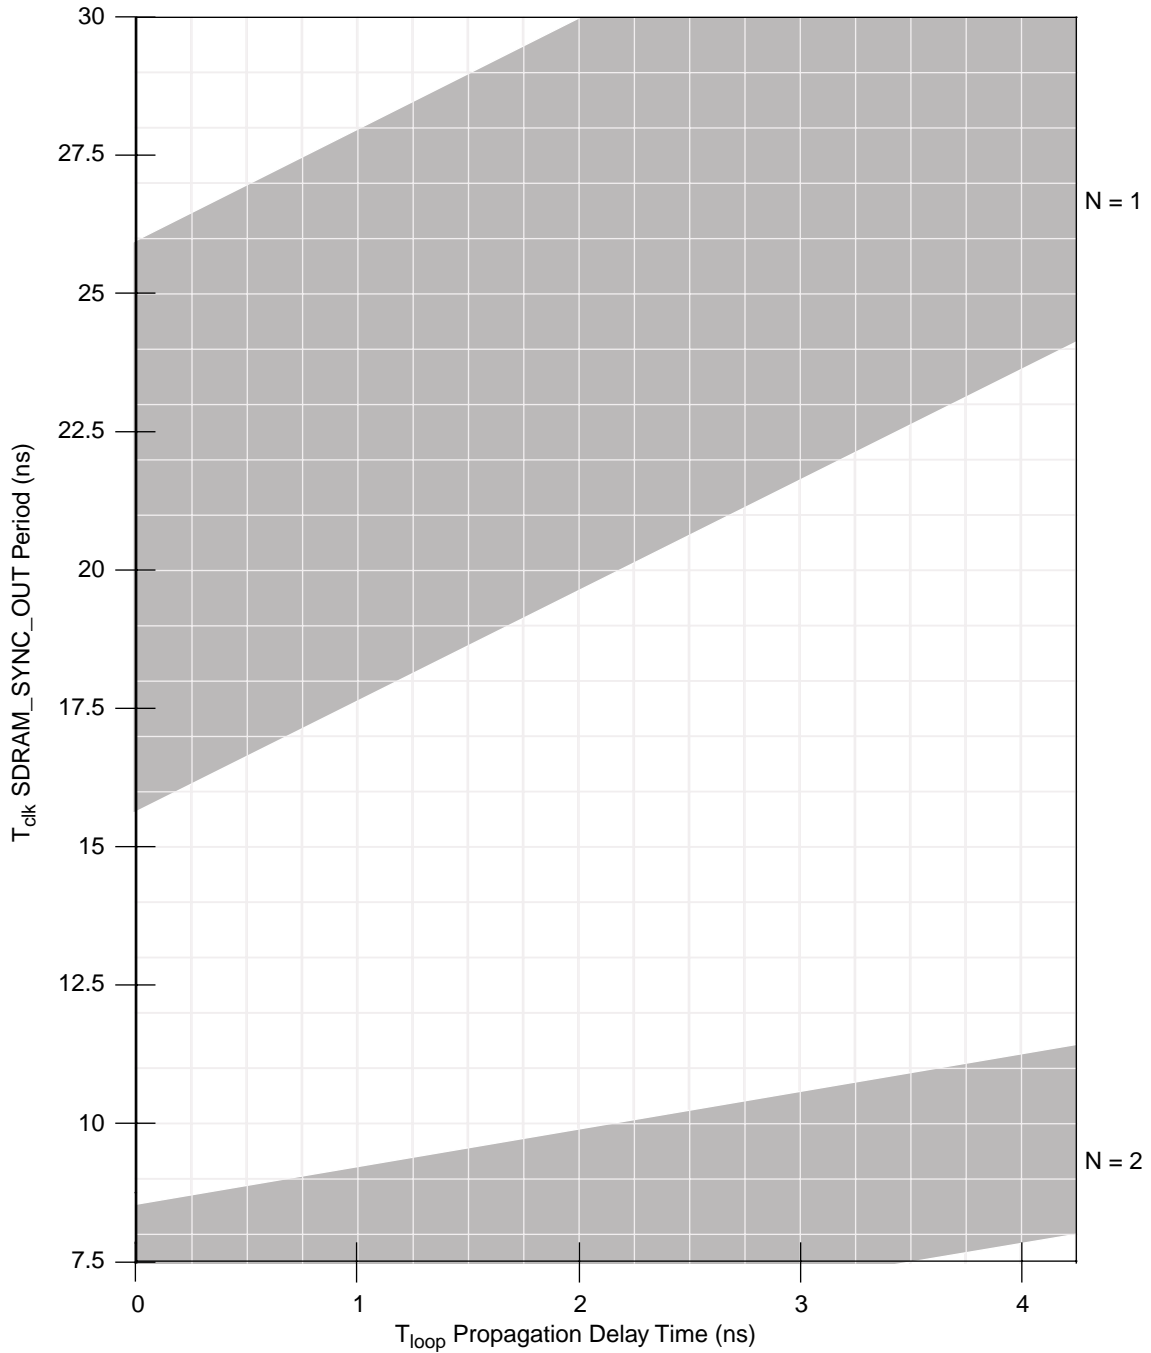
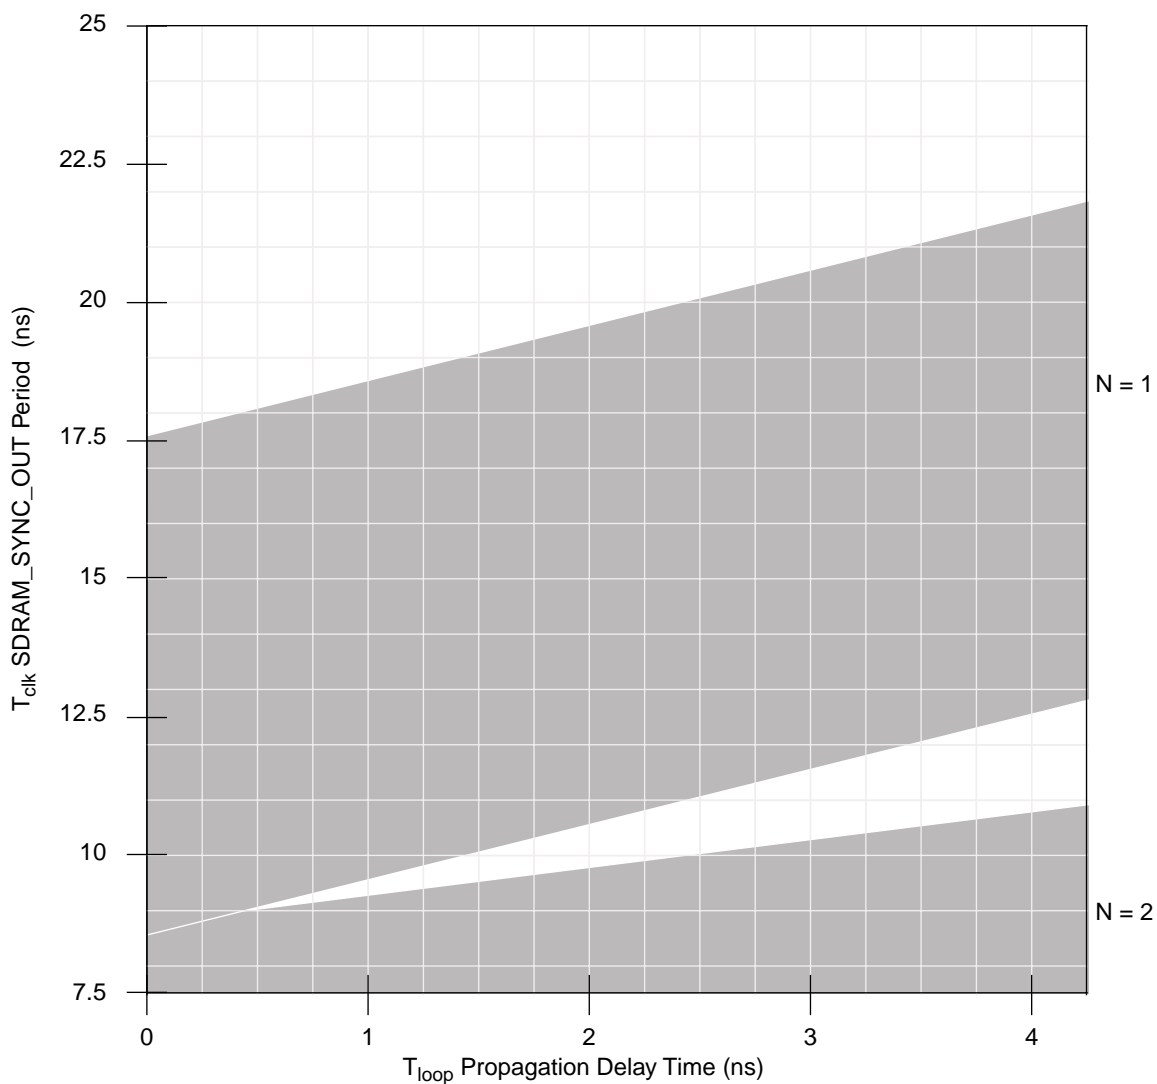

Figure 5. DLL Locking Range Loop Delay vs. Frequency of Operation for DLL\_Extend=1 and Normal Tap Delay
Figure 8. DLL Locking Range Loop Delay vs. Frequency of Operation for DLL\_Extend=0 and Max Tap Delay
6. DLL\_EXTEND is bit 7 of the PMC2 register <72>. N is a non-zero integer (see Figures 5 through 8).  $T_{clk}$  is the period of one SDRAM\_SYNC\_OUT clock cycle in ns.  $T_{loop}$  is the propagation delay of the DLL synchronization feedback loop (PC board runner) from SDRAM\_SYNC\_OUT to SDRAM\_SYNC\_IN in ns; 6.25 inches of loop length (unloaded PC board runner) corresponds to approximately 1 ns of delay.  $T_{dp(max)}$  and  $T_{dp(min)}$  are dependent on tap delay. See Table 9 for values of  $T_{dp(max)}$  and  $T_{dp(min)}$ . See Figure 5 through Figure 8 for DLL locking ranges. Refer to Motorola Application Note AN2164, *MPC8245/MPC8241 Memory Clock Design Guidelines*, for more details on memory clock design and an explanation of how  $T_{dp}$  is defined.
Figure 5 through Figure 8 show the DLL locking range loop delay vs. frequency of operation. These graphs define the areas of DLL locking for various modes. The grey areas represent where the DLL will lock.
- $T_{\text{os}}$  represents a timing adjustment for SDRAM\_SYNC\_IN with respect to *sys\_logic\_clk*. Due to the internal delay present on the SDRAM\_SYNC\_IN signal with respect to the *sys\_logic\_clk* inputs to the DLL, the resulting SDRAM clocks become offset by the delay amount. The feedback trace length of SDRAM\_SYNC\_OUT to SDRAM\_SYNC\_IN must be shortened by this amount relative to the SDRAM clock output trace lengths to maintain phase-alignment of the memory clocks with respect to *sys\_logic\_clk*. Note that the DLL locking range graphs of Figure 5 through Figure 8 compensate for  $T_{\text{os}}$  and there is no additional requirement to shorten  $T_{\text{loop}}$  by the duration of  $T_{\text{os}}$ . Refer to Motorola Application Note AN2164, *MPC8245/MPC8241 Memory Clock Design Guidelines*, for more details on accommodating for the problem of  $T_{\text{os}}$  and trace measurements in general.